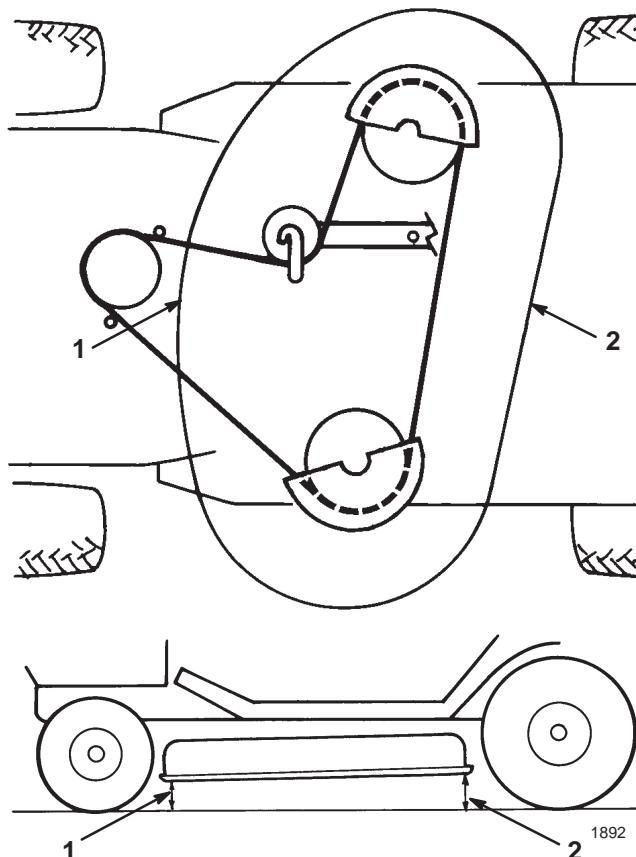

Figure 51
6. Check the front-to-rear slope by measuring between the bottom of the mower (front center and rear center) and the flat surface (Fig. 51). If the front is not within a range of 1/8–3/8 in. (3.5–10.5 mm) lower than the rear, an adjustment is required.